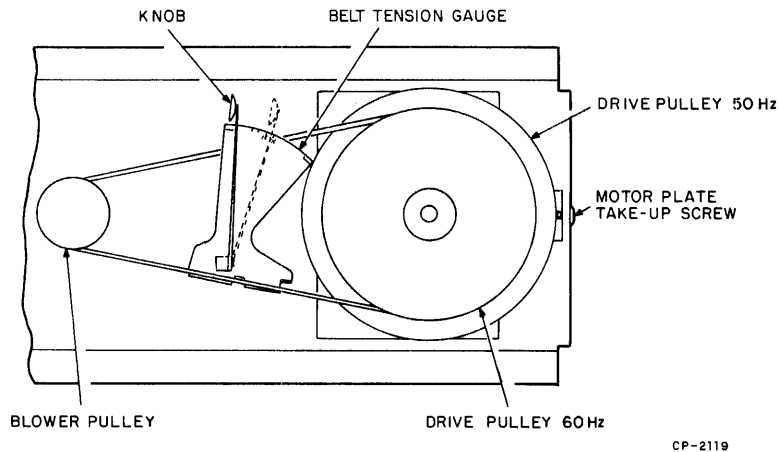

Figure 5-61 Belt Tension Gauge
4. Position the belt tension gauge as shown in Figure 5-61; push against the knob at the end of the spring until the third tab on the gauge just touches the belt.